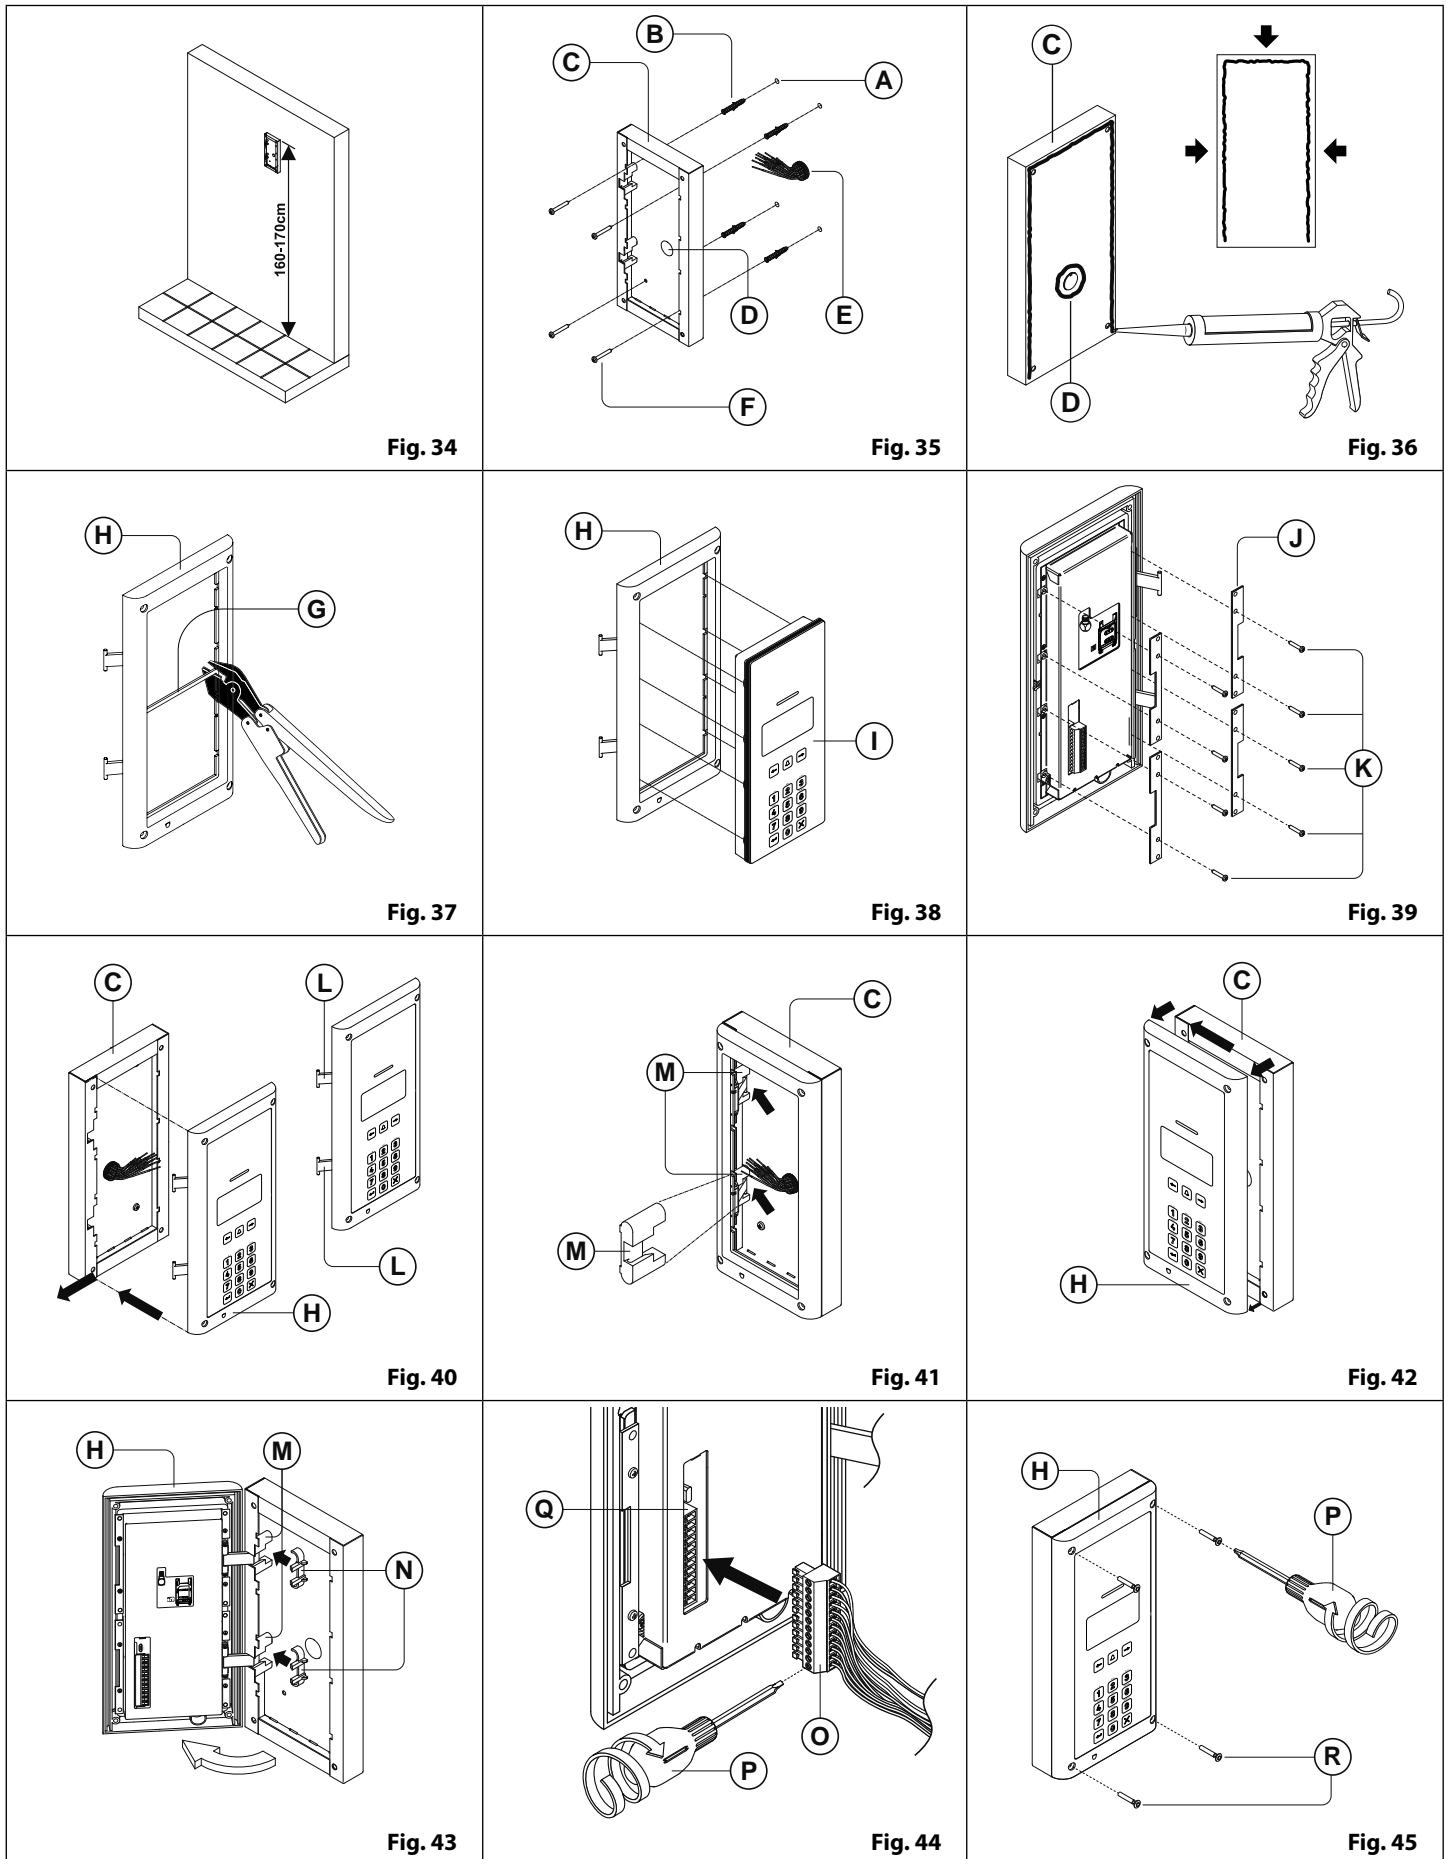

Fig. 33
6. After another delay the GSM will emit a beep and below the Videx logo it will indicate the digital GSM is resetting, as shown in **Fig.33**.